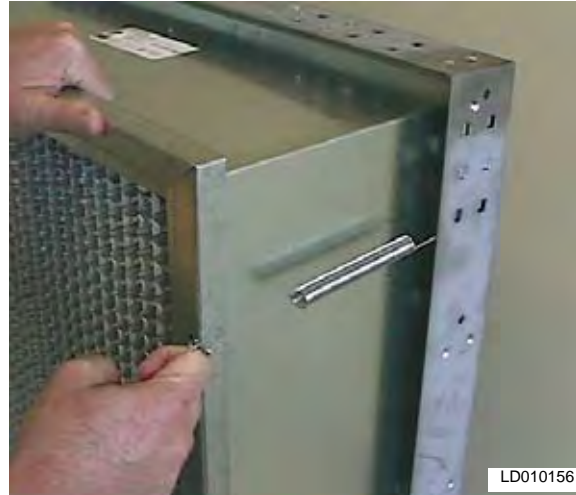

FIG. 2-111 – FRAME WITH 4 LATCHES INSTALLED
5. Insert the VariCel DH filter into the frame. While holding the filter in the frame, grasp the loop on the end of the latch and pull it until it stretches over the header and rests into the pre-drilled hole in the header of the filter (see Fig.2-111). Repeat this with the remaining latches.